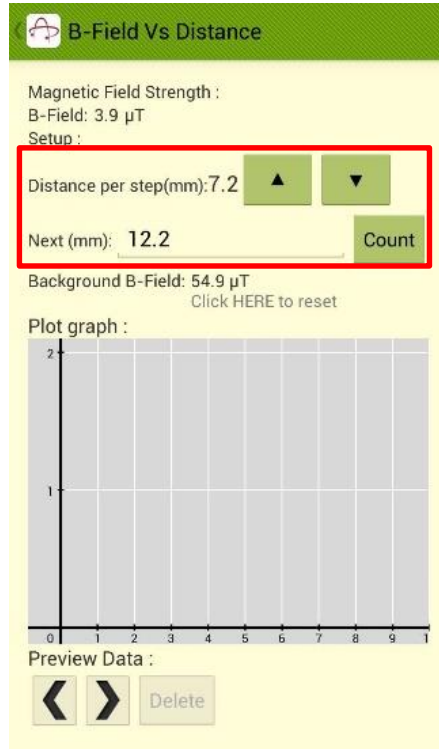

Fig 5.13
- Press the “Up/Down Arrow” to increase/decrease the “Distance per step” by 0.1mm. The example below is set to 7.2mm. Given that the starting point at 5.0mm, the next data point will be 12.2mm (Fig 5.13).